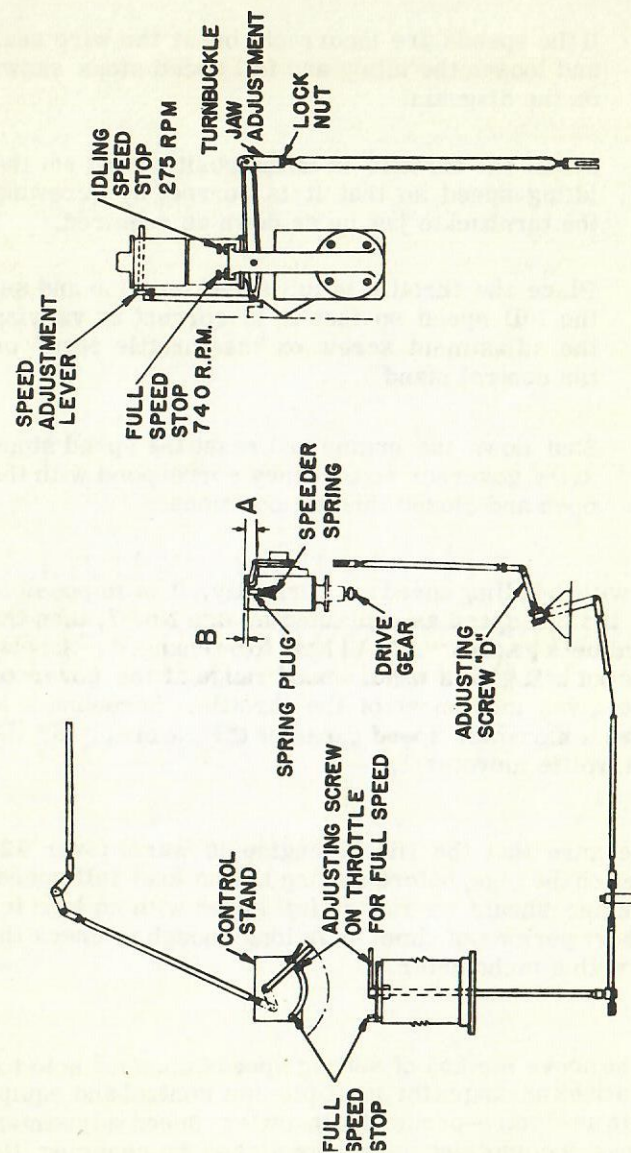

FIG. 33 B-1
2. Measure the distances "A" and "B", shown on Fig. 33 B-1, with a scale and straight edge. "A" is the distance from the top of the governor casing to the top of the speeder spring plug. "B" is the distance from the top of the casing to the hole center at the end of the speed adjusting lever.